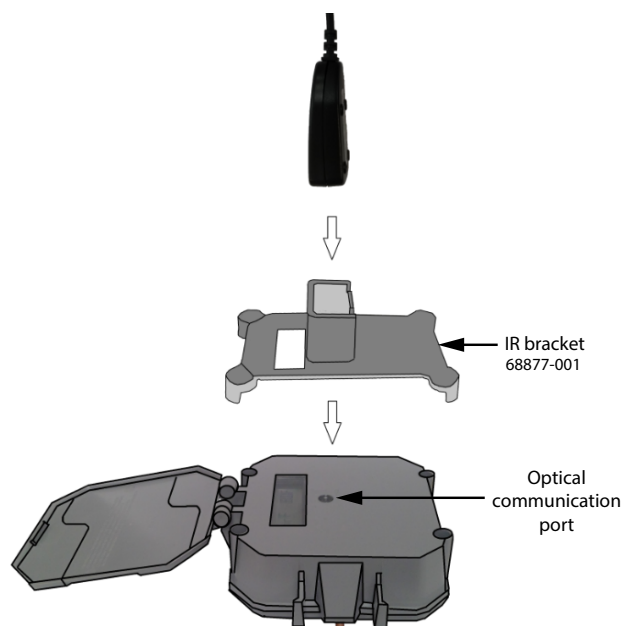

Figure 3: IR bracket for E-Series G2 Ultrasonic meter
2. Position the bracket over the E-Series G2 Ultrasonic meter as shown in *Figure 3*, with the opening directly over the meter optical communication port. Push down gently at both ends so the four (4) corners clip over the edges of the meter.